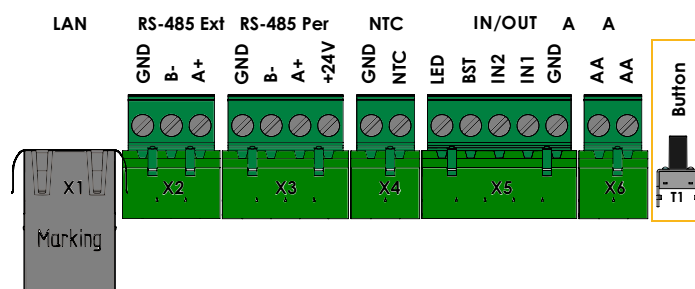

Figure 4 - Filter initialization - short press
- press filter initialization button on the control board (see fig. 4 – Filter initialization) or start filter replacement in MyJABLOTRON application.